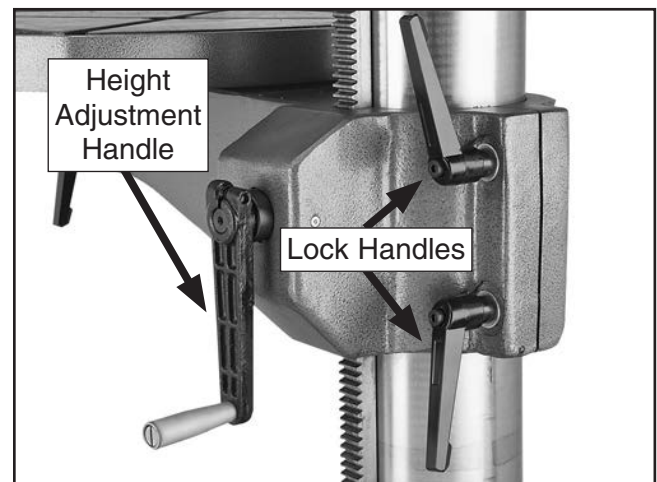

Figure 20. Column Release and Height Adjustment Handles.
2. Loosen the release handles shown in **Figure 20**.
3. Adjust the table height by rotating the height adjustment handle (see **Figure 20**).
2. Slightly loosen the lock handles (see **Figure 20**).